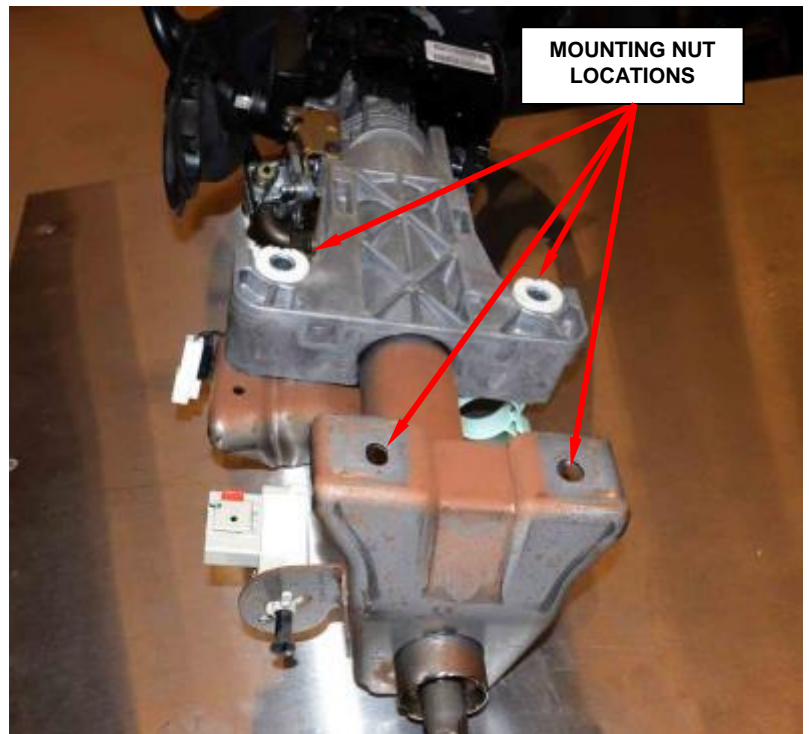

Figure 56 - Steering Column Mounting (Column Removed for Photographic Purposes)
16. Remove the four steering column mounting nuts (Figures 56 and 57).